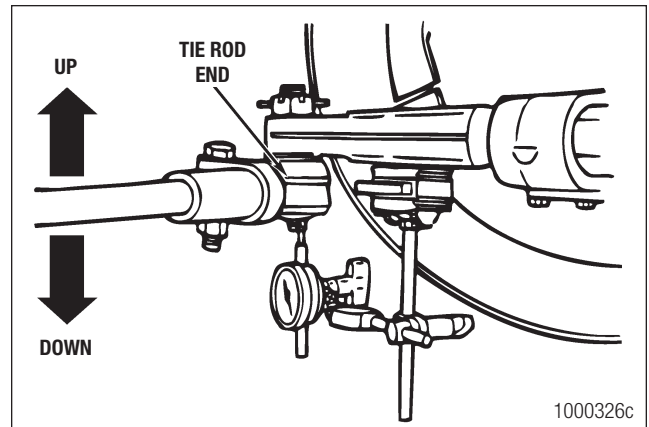

Figure 11.10
5. Place the indicator tip near the tie rod end grease fitting. Figure 11.10. Set the dial indicator on ZERO.